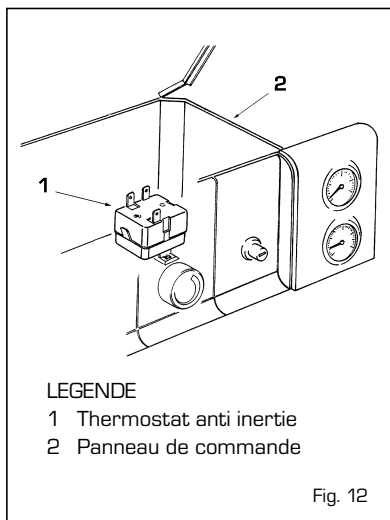

Fig. 12
3.3 THERMOSTAT ANTI INERTIE TERMIQUE (fig. 12)